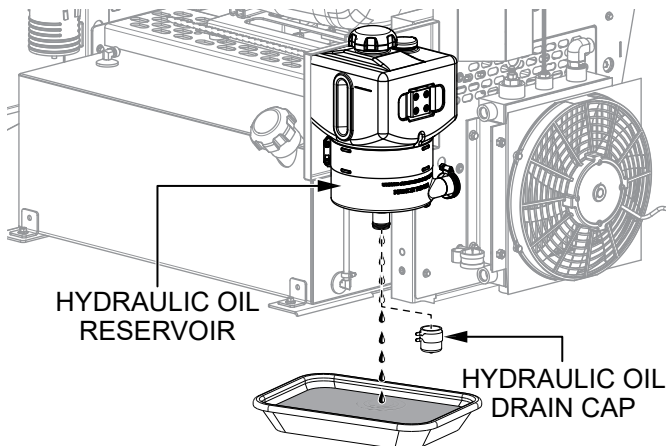

Figure 35. Draining The Hydraulic Oil
1. Place an appropriate container beneath the **hydraulic oil reservoir** (Figure 35) to catch the hydraulic oil as it drains.
2. Remove the **hydraulic oil drain cap** (Figure 35) and allow the hydraulic oil to drain completely from the reservoir.